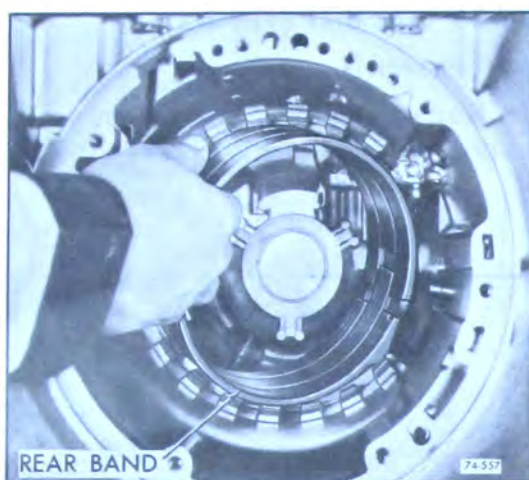

Figure 74-557
20. Remove rear band assembly. See Figure 74-557.